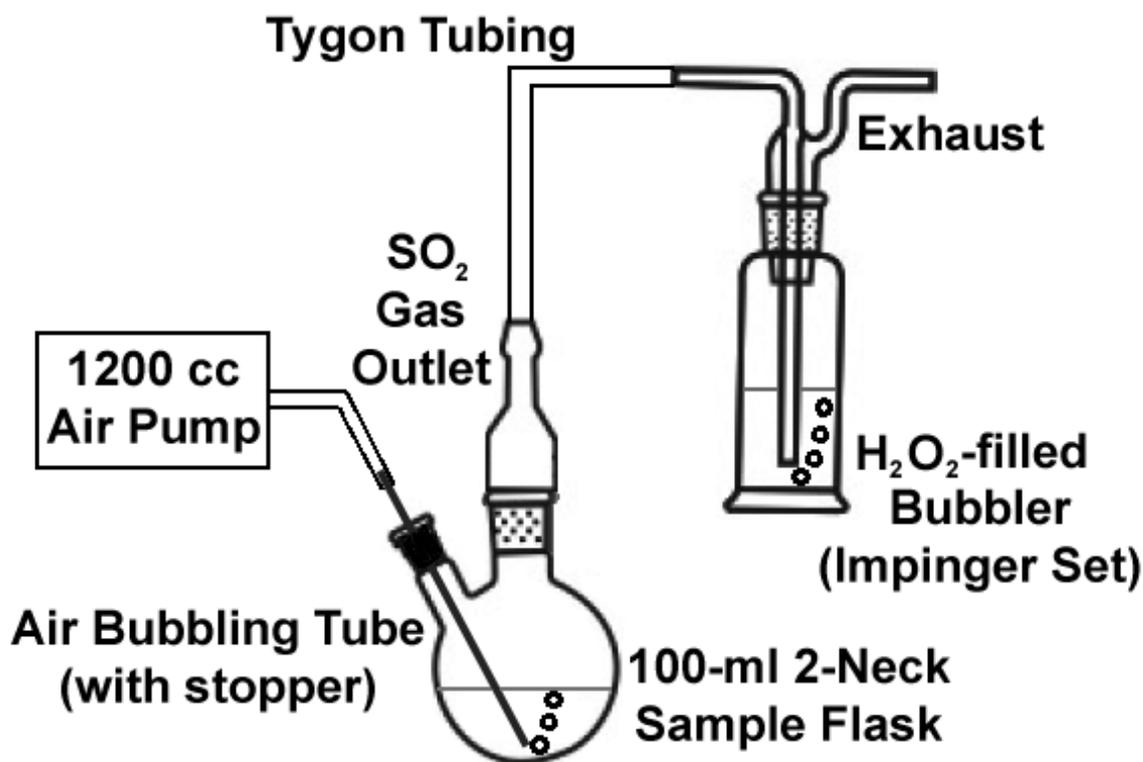

Figure S-1.
The volume of 0.01 N NaOH (sodium hydroxide) needed to titrate the sulfuric acid product back to a neutral end point is measured and used to estimate free SO₂ levels in the original volumetric sample of wine. A high rate of air aspiration (1.0 L/min) is required for complete recovery of the free SO₂ during the specified aspiration interval (15 min). Typical apparatus used to perform the procedure is depicted in Figure S-1.
- b. Add approximately 10 ml of 0.3% hydrogen peroxide and 4 drops of SO₂ indicator solution to the impinge flask (see Figure S-1).
Apparatus depicted in Figure S-1.